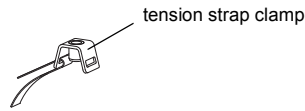

Fig. 8.32: Tension strap with tension strap clamp
- Insert approx. 100 mm of the tension strap into one of the slots of the tension strap clamp and bend it (see Fig. 8.32).